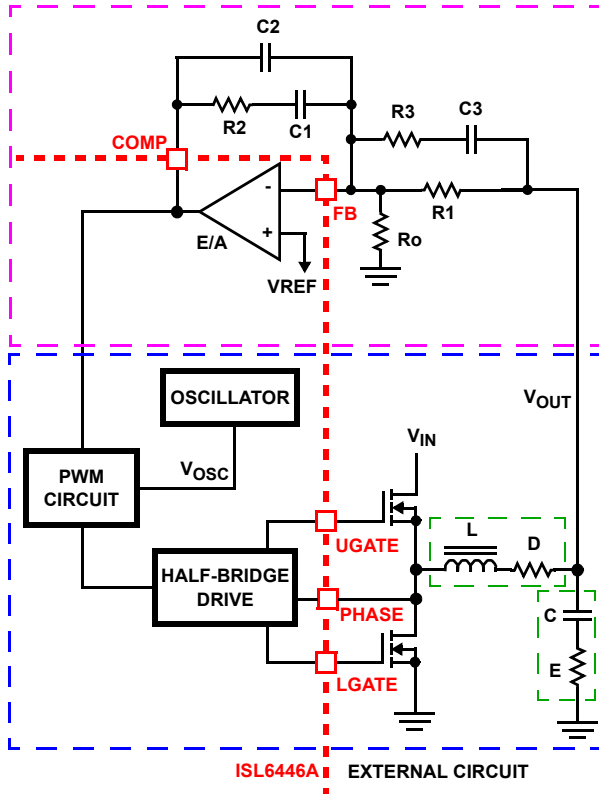

FIGURE 26. VOLTAGE-MODE BUCK CONVERTER COMPENSATION DESIGN
Figure 26 highlights the voltage-mode control loop for a synchronous-rectified buck converter, applicable to the ISL6446A circuit. The output voltage ( $V_{OUT}$ ) is regulated to the reference voltage,  $V_{REF}$ . The error amplifier output (COMP pin voltage) is compared with the oscillator (OSC) modified sawtooth wave to provide a pulse-width modulated wave with an amplitude of  $V_{IN}$  at the PHASE node. The PWM wave is smoothed by the output filter (L and C). The output filter capacitor bank's equivalent series resistance is represented by the series resistor E.
The compensation network consists of the error amplifier (internal to the ISL6446A) and the external R1 to R3, C1 to C3 components. The goal of the compensation network is to provide a closed loop transfer function with high 0dB crossing frequency ( $F_0$ ; typically 0.1 to 0.3 of  $F_{SW}$ ) and adequate phase margin (better than  $45^\circ$ ). Phase margin is the difference between the closed loop phase at  $F_{0dB}$  and  $180^\circ$ . The equations that follow relate the compensation network's poles, zeros and gain to the components (R1, R2, R3, C1, C2, and C3) in Figure 26. Use the following guidelines for locating the poles and zeros of the compensation network:
1. Select a value for R1 (1kΩ to 5kΩ, typically). Calculate the value for R2 for desired converter bandwidth ( $F_0$ ). If setting the output voltage via an offset resistor connected to the FB pin, Ro in Figure 26, the design procedure can be followed as presented in Equation 13.